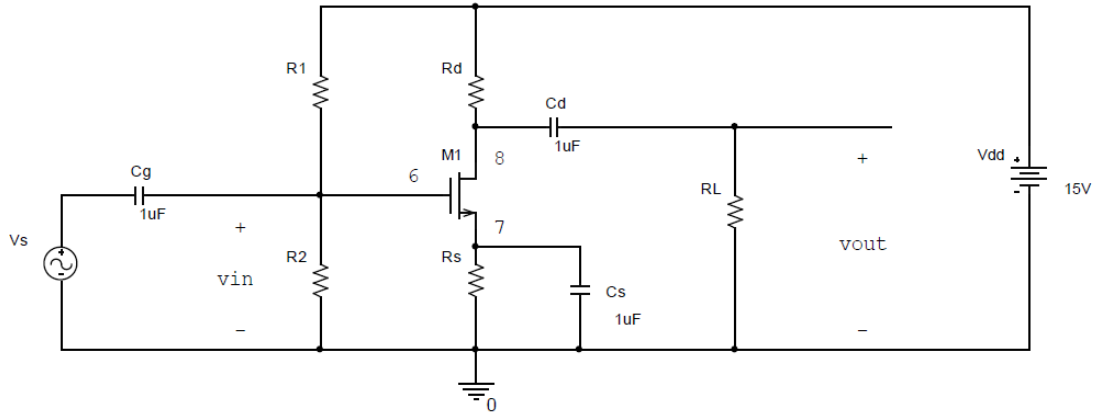

Figure 8-3 MOSFET Common-Source Amplifier
5. For the circuit shown in Figure 8-3, find values for R_1 , R_2 , R_D and R_S such that the MOSFET is biased with an I_{DS} of approximately $400\mu A$, a V_{GS} of $2.3V$, a V_D of $9V$, and a V_S of $4V$. Verify that the MOSFET is in saturation. Assume: $\mu_o C_{ox}(W/L) = 650\mu A/V^2$, $V_T = 1.19V$, $R_L = 10k\Omega$, and that the capacitors are open circuit to DC. Use only standard resistor values less than $150k\Omega$. Since all transistors have a variance in their characteristics, when building this circuit in the lab session, it may be necessary to make adjustments of the bias voltages to provide for the best signal swing. This can usually be accomplished by adjusting the value of R_S .
6. For the circuit of Figure 8-3, use the calculated values for R_1 , R_2 , R_D and R_S , assume the load resistance R_L is $10\text{k}\Omega$, and that capacitors and DC power supplies represent a short circuit to AC. Find the voltage gain $A_{V_{G-D}} = v_{out}/v_{in}$, the input impedance r_i , and the output impedance r_o . Also, assume: $\mu_0 C_{ox}(W/L) = 650\mu\text{A}/\text{V}^2$; $V_T = 1.19\text{V}$; and $V_A = 100\text{V}$.